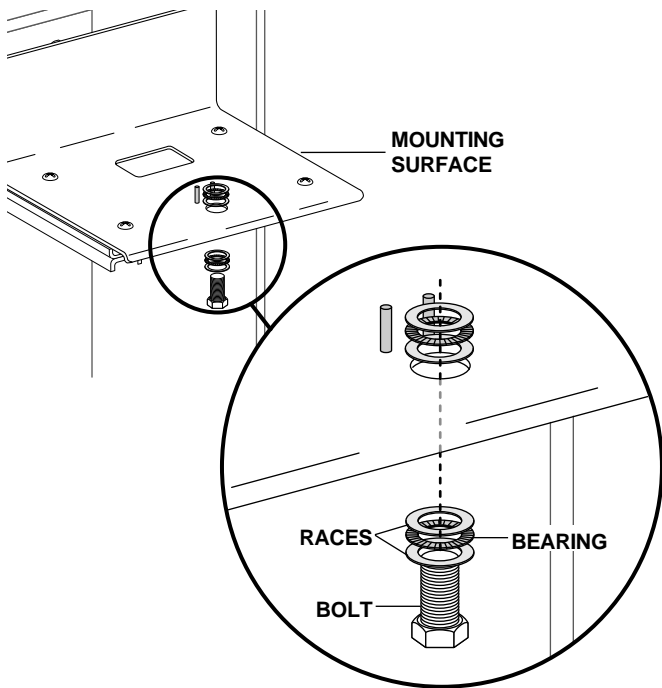

FIGURE 2
3. Install the mounting bolt, races, and bearing to the mounting surface as shown in Figure 2.